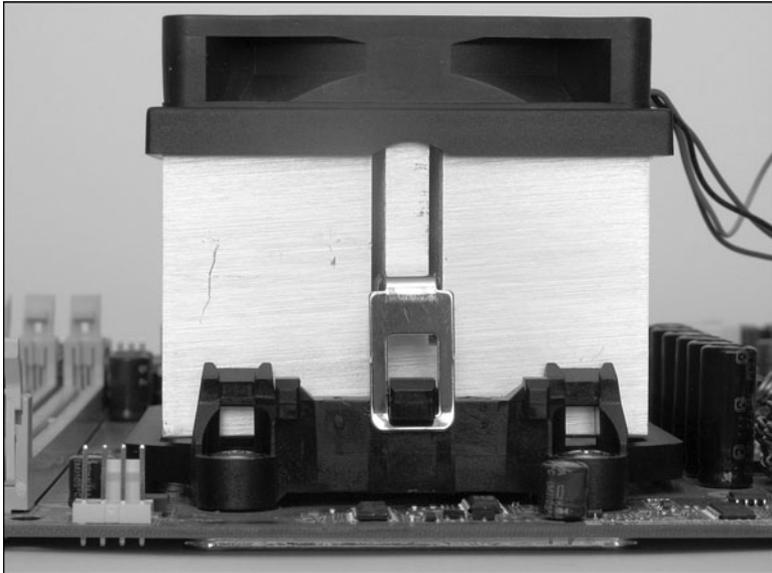

FIGURE 14.10
4. On the side opposite the lever, maneuver the square hole in the clip over the rectangular protrusion in the plastic bracket that surrounds the CPU socket, as shown in Figure 14.10.